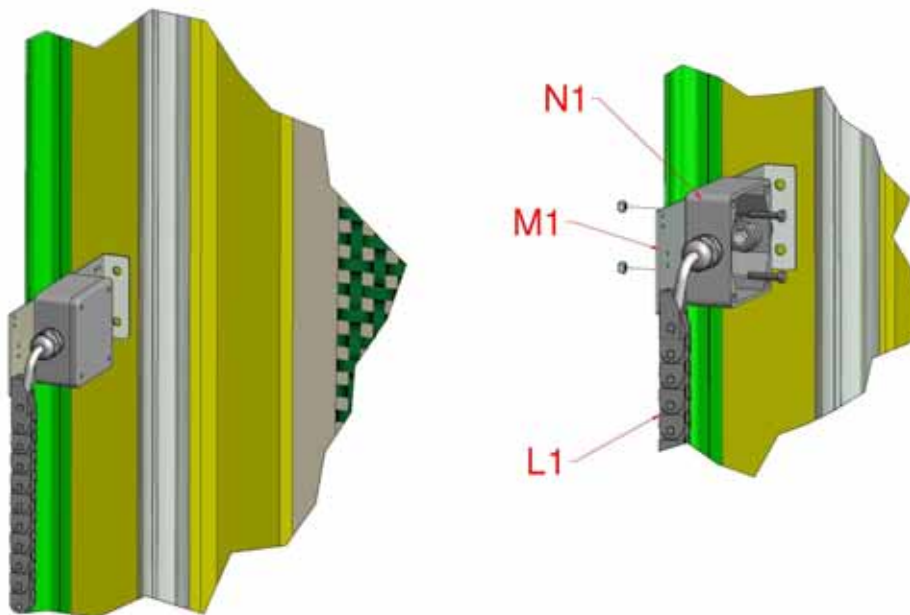

Figure 18, Junction Box Mounting
- 4.5 The wire from the Motor is to be fed through the Energy Chain and connected to the Energy Chain Bracket attached to the Trolley Box. The Energy Chain is to exit around the bottom of the Trolley Box and up to attach to a Chain Bracket fitted to the Junction Box Mounting Bracket (M1) positioned as shown in Figure 18, at height approximately in the centre of the Upper Curtain.